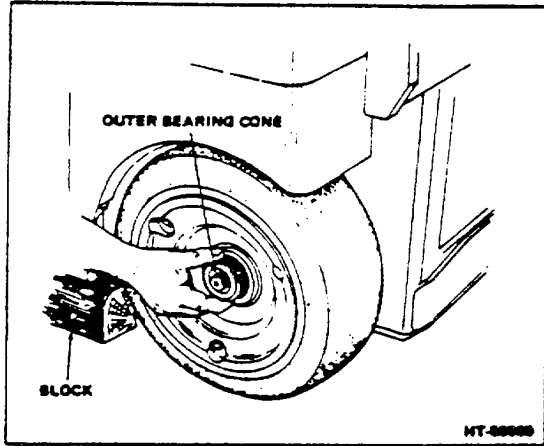

Figure 1-2. Removing Drive Wheel Outer Bearing Cone
- c. Remove outer bearing cone (Fig 1-2) from wheel and carefully remove the drive wheel.